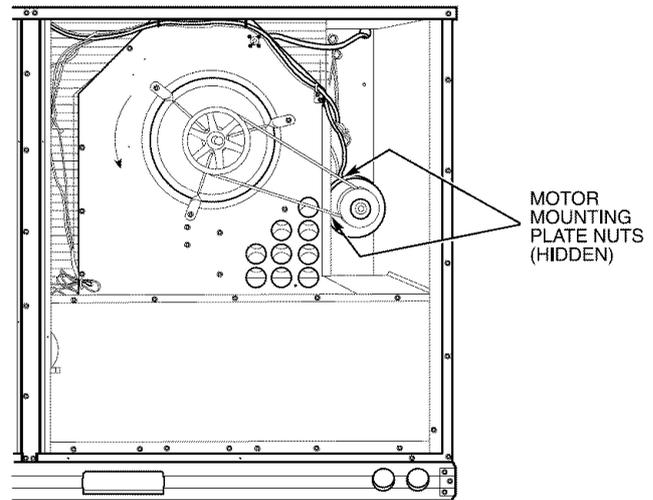

Fig. 45 — Typical Belt-Drive Motor Mounting for Sizes 012, 014
3. *Sizes 012, 014* — Slide motor mounting plate downward to tighten belt tension. Secure motor mounting plate nuts. See Fig. 45. Use $\frac{1}{2}$ -in. deflection with 10 lb of force.